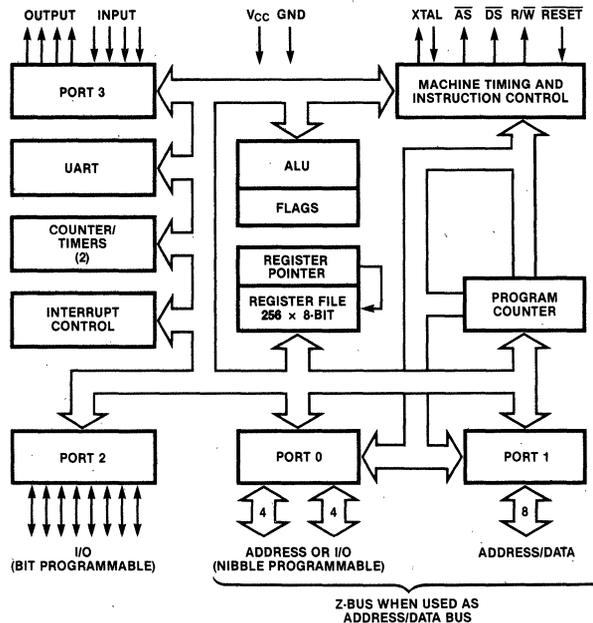

Figure 3. Functional Block Diagram
To unburden the program from coping with real-time problems such as serial data communication and counting/timing, an asynchronous receiver/transmitter (UART) and two counter/timers with a large number of user-selectable modes are offered on-chip. Hardware support for the UART is minimized because one of the on-chip timers supplies the bit rate. Figure 3 shows the block diagram.
**P00-P07, P20-P27, P30-P37.** I/O Port Lines (input/outputs, TTL-compatible). These 24 lines are divided into three 8-bit I/O ports that can be configured under program control for I/O or external memory interface (Figure 3).